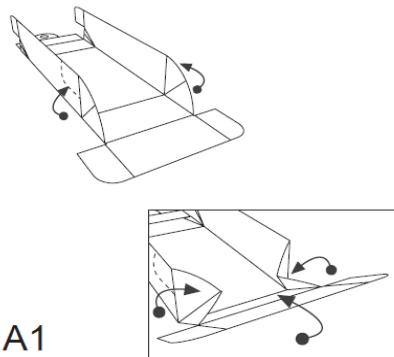
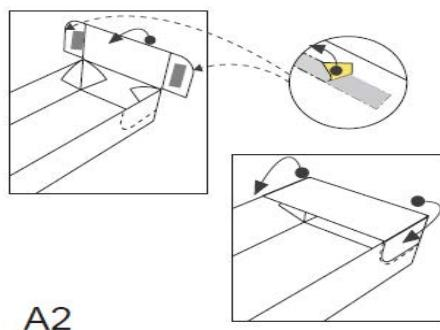

Figure 5-41: LIAISON® EASY Waste assembling instruction step A1
Figure 5-42: LIAISON® EASY Waste assembling instruction step A2
3. Following the marked crease, fold upwards the two side flaps and fold internally the two extremities close to the absorbent cloth; pull upward the side over the absorbent cloth (see Figure 5-41 step A1).
4. Remove the two double-sided adhesive tapes from the cardboard raised in step A1 of the figure 5-41 and glue the two creases folding them on the two side flaps (see Figure 5-42 step A2). Press the two side flaps in order to ensure the complete gluing of the adhesive tapes.